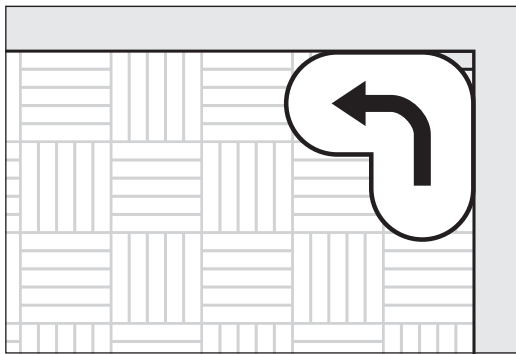

Fig. 29 Direction of movement of the FLIP® with **corner attachment**.
- In contrast to work with the other attachments, the sanding has to be carried out **counter-clockwise** (Fig. 29)!